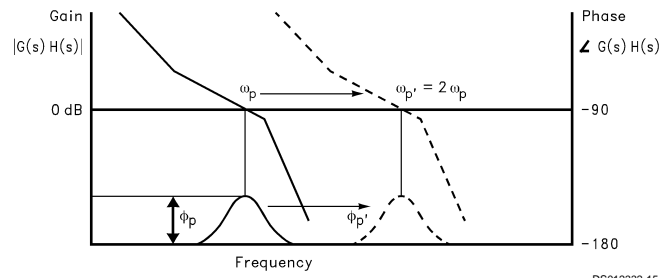

FIGURE 4. Open Loop Response Bode Plot
A plot of the magnitude and phase of $G(s)H(s)$ for a stable loop, is shown in *Figure 4* with a solid trace. The parameter ϕ_p shows the amount of phase margin that exists at the point the gain drops below zero (the cutoff frequency ω_p of the loop). In a critically damped system, the amount of phase margin would be approximately 45 degrees.
If we were now to redefine the cut off frequency, ω_p' , as double the frequency which gave us our original loop bandwidth, ω_p , the loop response time would be approximately halved. Because the filter attenuation at the comparison frequency also diminishes, the spurs would have increased by approximately 6 dB. In the proposed Fastlock scheme, the higher spur levels and wider loop filter conditions would exist only during the initial lock-on phase—just long enough to reap the benefits of locking faster. The objective would be to open up the loop bandwidth but not introduce any additional complications or compromises related to our original design criteria. We would ideally like to momentarily shift the curve *Figure 4* over to a different cutoff frequency, illustrated by dotted line, without affecting the relative open loop gain and phase relationships. To maintain the same gain/phase relationship at twice the original cutoff frequency, other terms in the gain and phase *Equations (5), (6)* will have to compensate by the corresponding “ $1/\omega$ ” or “ $1/\omega^2$ ” factor. Examination of *Equations (3), (4), (5)* indicates the damping resistor variable $R2$ could be chosen to compensate with “ ω ” terms for the phase margin. This implies that another resistor of equal value to $R2$ will need to be switched in parallel with $R2$ during the initial lock period. We must also ensure that the magnitude of the open loop gain, $H(s)G(s)$ is equal to zero at $\omega_p' = 2\omega_p$. K_{VCO} , K_ϕ , N , or the net product of these terms can be changed by a factor of 4, to counteract with ω^2 term present in the denominator of *Equations (3), (4)*. The K_ϕ term was chosen to complete the transformation because it can readily be switched between 1X and 4X values. This is accomplished by increasing the charge pump output current from 1 mA in the standard mode to 4 mA in Fastlock.